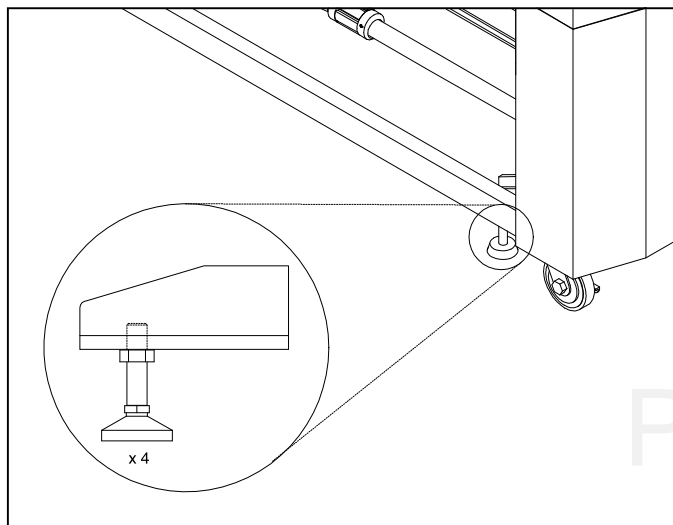

Fig. 3
5. Leveling of the machine is a customer option. If you choose not to level the laminator and encounter output problems, please level the machine and try your application again before calling for technical support. Resting the laminator on the leveling pads prevent the machine from rolling during set up, operation or servicing. (Figure 3)